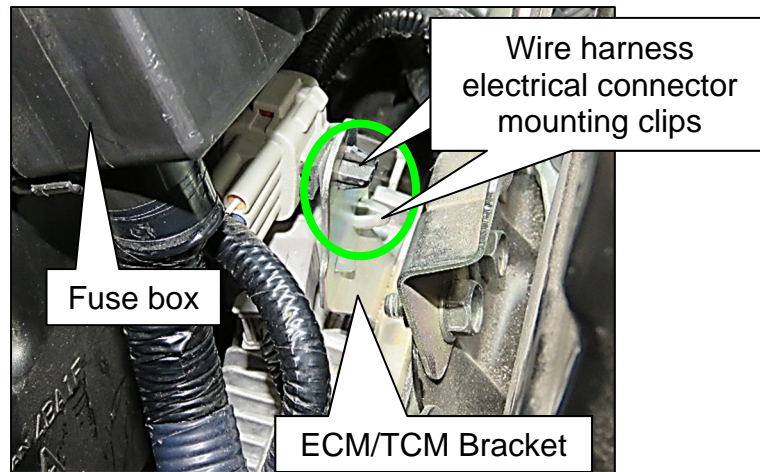

Figure 19
16. Move the fuse box toward the front of the vehicle, as shown in Figure 19, to connect both wire harness electrical connector mounting clips to the ECM/TCM bracket.